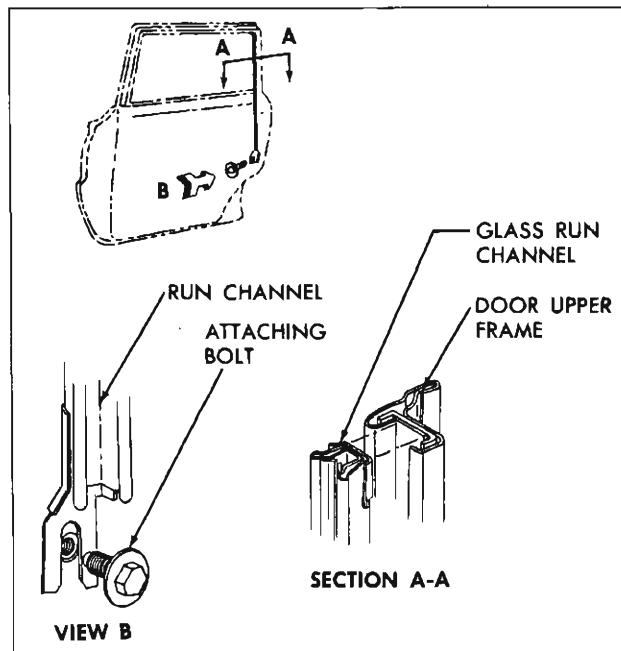

Fig. 55—Rear Door Window Rear Run Channel Attachment
3. Closed style rear doors do not provide for mechanical adjustments of the glass run channels. In the event of excessively loose door glass, however, the run channels can be moved closer to glass by adding shim(s) (washers—not a service part) between door lock and/or hinge pillar panel and run channel(s) at attaching bolt locations. Figures 55 and 56 show glass run channel attaching bolt locations on 35-45 styles.